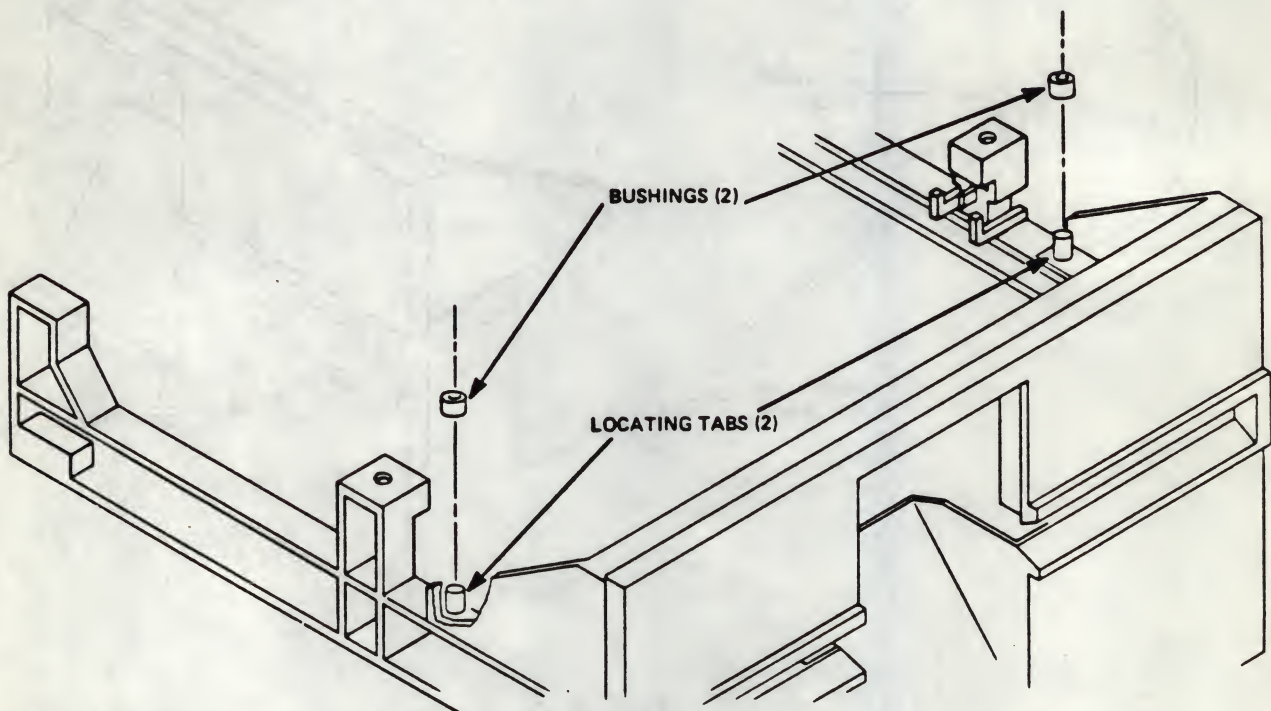

Figure 5-11
5.7.2 Using a pair of needle nose pliers, remove the two (2) bushings located on the right-hand and the left-hand top sides of the front panel by pulling up on them while using a twisting motion (see Figure 5-11).
5.7.7 Taking the new front panel, place the front door in its tracks on the front panel, and place the new front panel on the rail pins (see Figure 5-11).
5.7.11 Install two (2) new bushings on the right-hand and the left-hand sides of the front panel (see Figure 5-11).